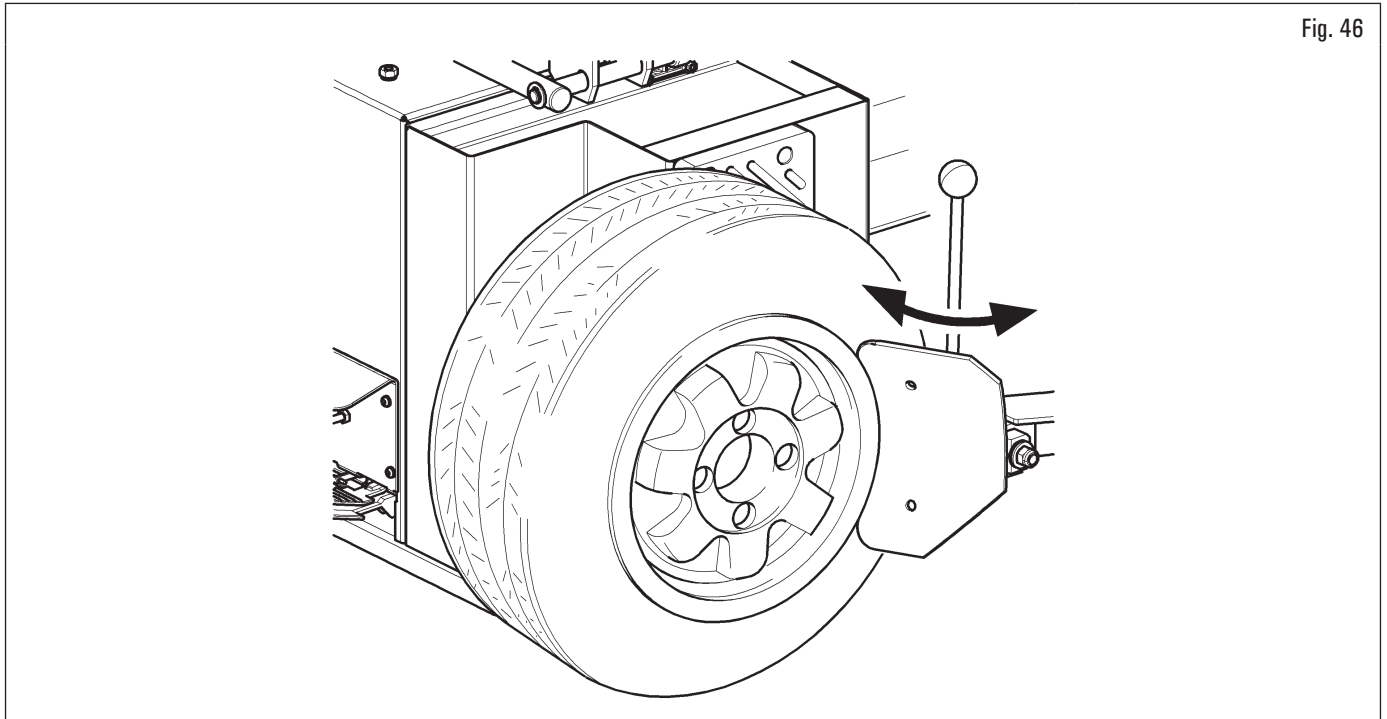

Fig. 46
1. position the wheel as indicated in Fig. 46 and move the bead breaker shovel towards the edge of the rim;